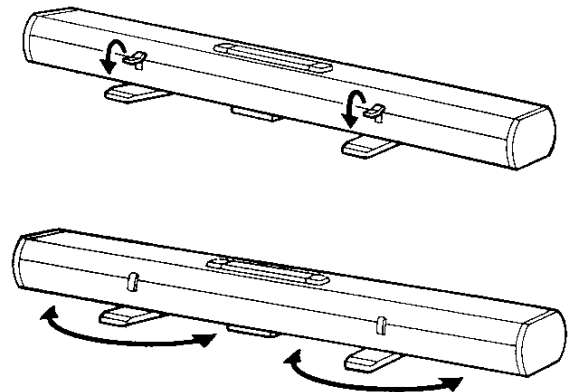

Figure 8
4. Close the case cover and latch it. It may be necessary to press down on the case top to get the latches to engage properly (Figure 8).
NOTE: Before carrying the case, rotate the feet, so they are out of the way (Figure 8).